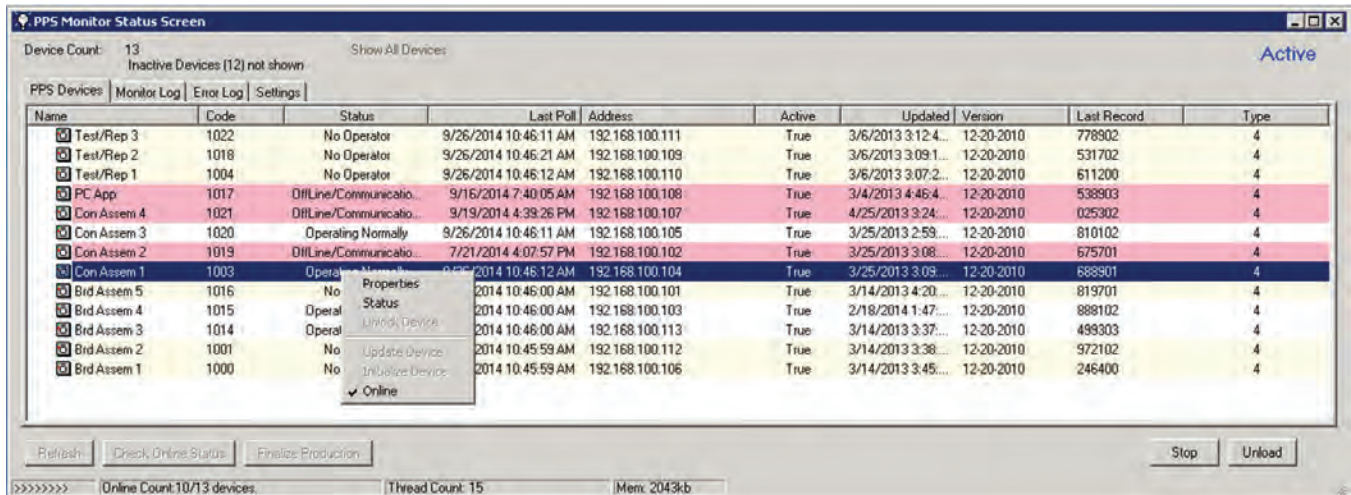

Figure 75. Right-click a device and select **Properties**.
3. Select **Properties** from the fly-out menu (see *Figure 75*).
2. Right-click on the device you would like to remove and select **Properties** from the fly-out menu (see Figure 75).
3. Right-click on the device you would like to activate and select **Properties** from the fly-out menu (see Figure 75).